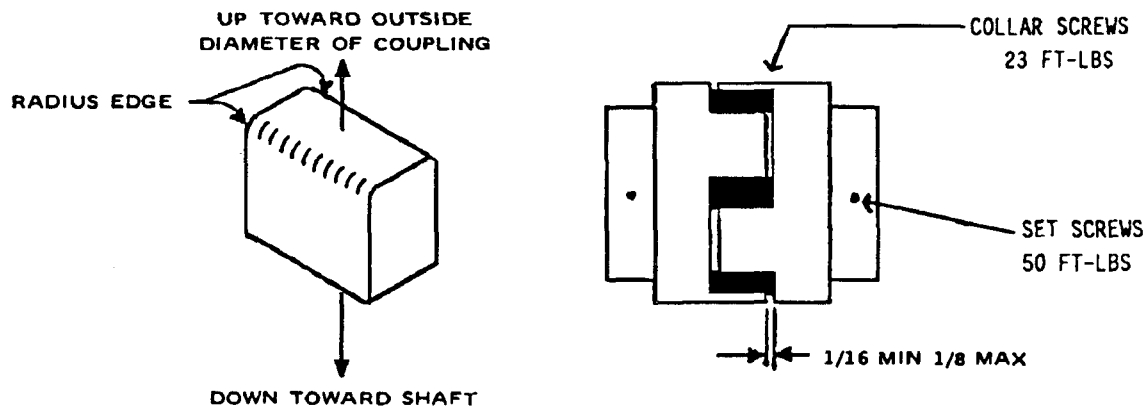

FIGURE 7-1 - INSTALLATION OF COUPLING CUSHIONS
**COUPLING** - The motor and compressor are direct connected by a resilient type flexible coupling, Figure 7-1. Coupling does not require lubrication.
#### Flexible Coupling Design (Figure 7-1)
coupling over gap between shafts, maintaining gap as shown in Figure 7-1 between the ends of the jaws on one coupling body and the flange on the opposite coupling body. Tighten set screws in each coupling body.
4. Insert cushion as shown in Figure 7-1 and slide collar over cushions and secure with cap screws. Reinstall the coupling guard.